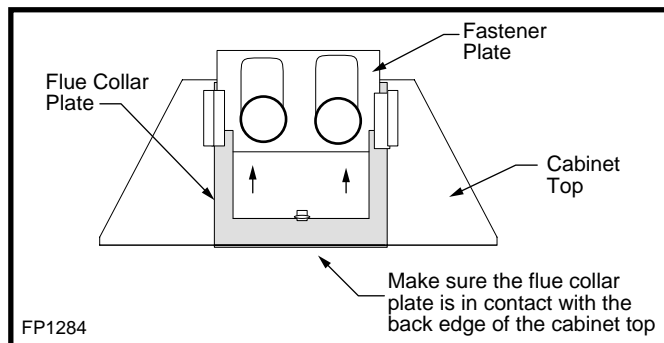

Fig. 13 The flue collar plate must be completely in contact with back edge of cabinet top.
3. After the flue collar plate is set on the cabinet top, make sure the front edge of the flue collar plate is completely in contact with the back edge of the cabinet top. (Fig. 13)